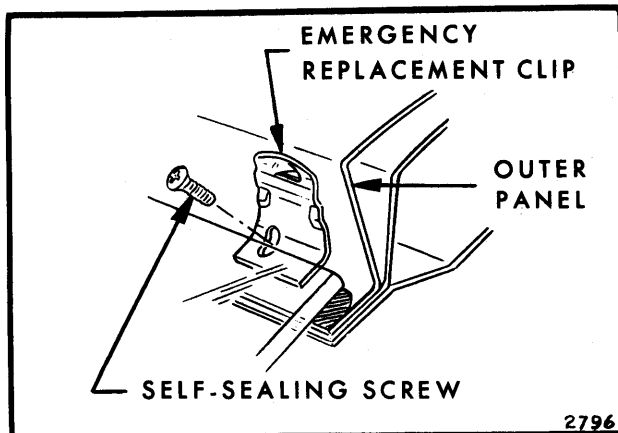

Fig. 17-5—Reveal Molding Clip Emergency Replacement
2. Insert a self-sealing screw through emergency replacement clip and into panel (Fig. 17-5).